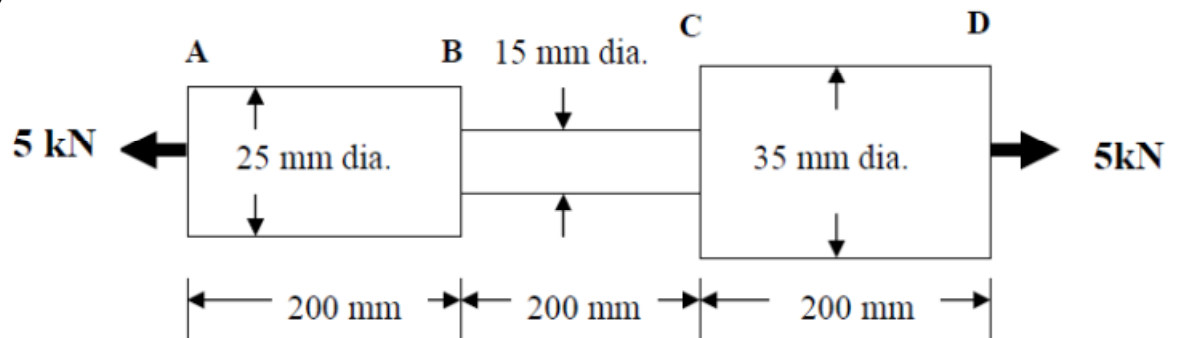

Fig.Q1
1. A steel bar comprises three sections of three cross sections as shown in Fig. Q1. The diameters of parts AB, BC and CD are 25 mm, 15 mm and 35 mm respectively. The bar is subjected to an axial tensile force of 5 kN. If Young's modulus of steel is  $200 \text{ kN/mm}^2$ , and the elongations of the three sections of the bars are  $\Delta_1$ ,  $\Delta_2$  and  $\Delta_3$  respectively, calculate the ratio of the largest to the smallest of these three elongations.